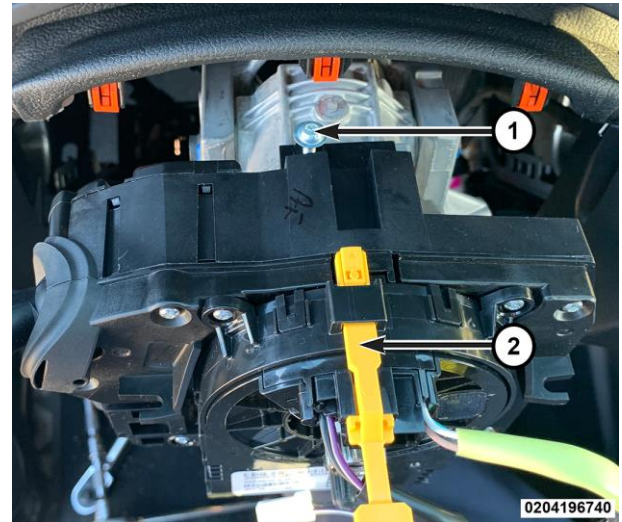

Figure 12 – SCCM Screw
24. Remove the screw (1) (Figure 12).
4. Install and securely tighten the screws (1) (Figures 12 & 13).